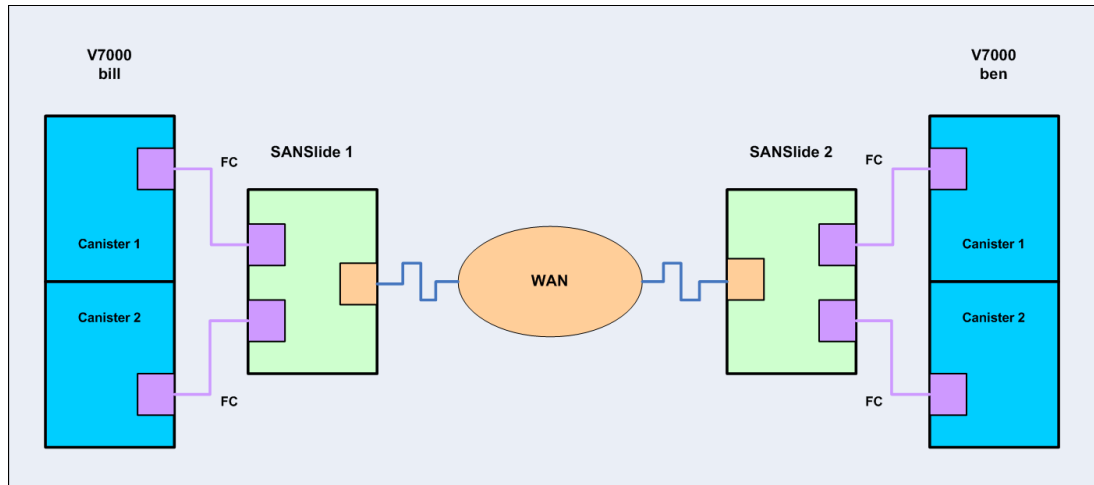

Figure 1-4 Single pair of SANSlide 150s between Storwize V7000 clusters
Figure 1-4 shows a single pair of SANSlide 150s connecting two Storwize V7000 clusters. In this design, there is a redundant connection from the Storwize V7000 to the SANSlide 150, which protects against a Fibre Channel (FC) connection failure or a Storwize V7000 node canister outage (for example, for a code upgrade). However, it does not protect against a SANSlide 150 failure (or code upgrade) or a WAN connection failure.